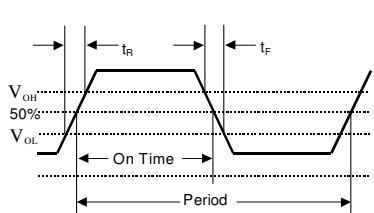
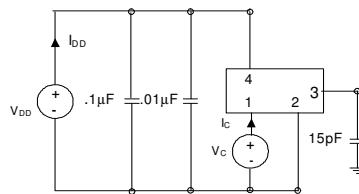

Figure 5: Output Waveform
Figure 6: Typical Output Test Conditions (25±5 °C)
2. Parameter is defined in Figure 5 and tested as shown in Figure 6.
4. Symmetry is defined as On Time/Period (Figure 5).